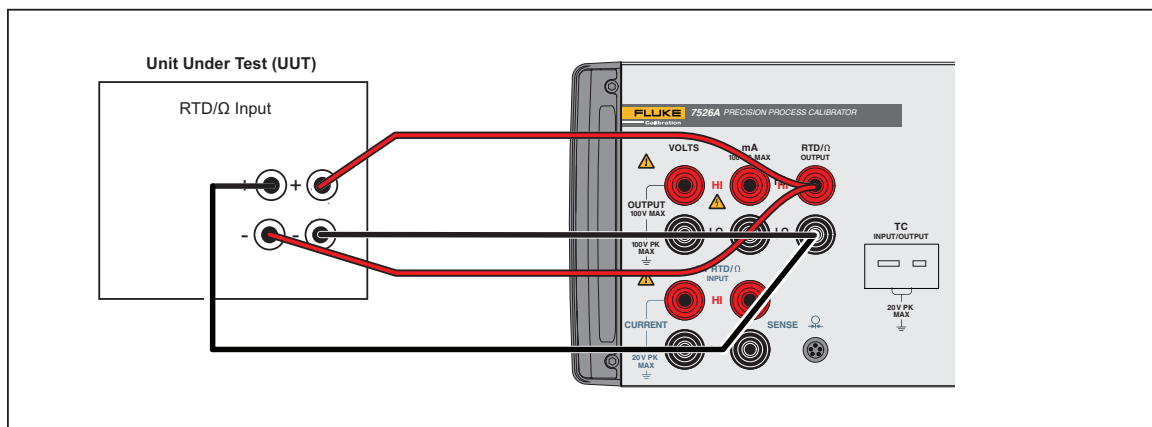

Figure 2-4. RTD/ $\Omega$  Output Connection
5. Connect the UUT to the RTD/ $\Omega$  output terminals of the Product as shown in Figure 2-4.